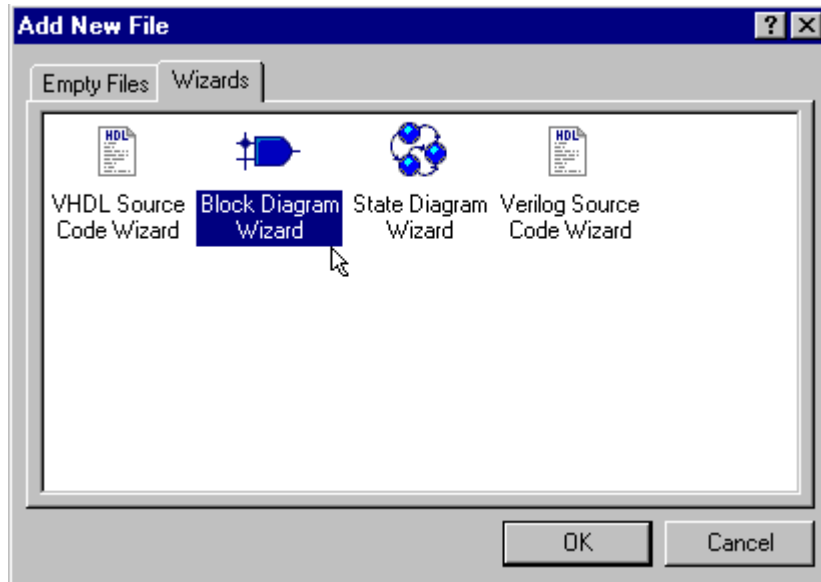

Figure 8
2. Click the Wizards tab in the Add New File window. Select the Block Diagram Wizard icon, and then click the OK button (Figure 8).